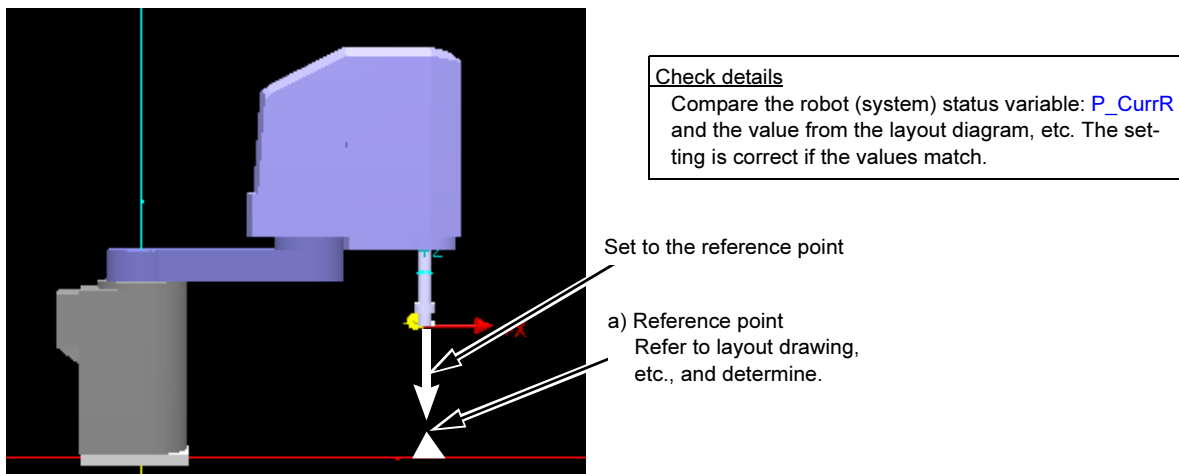

Fig.5-22: Checking the setting for calibration between robots
- 1) Looking at the system layout drawing, etc., set one reference point for each robot. (Fig. 5-22 a) (Hereinafter, reference point)